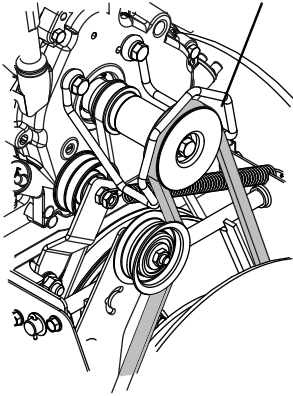

Figure 29
1. With the clutch lever disengaged, brake pad must contact attachment belt. With clutch lever engaged, brake pad must be more than 1/16 in. (1.6 mm) from belt. If there is more than 1/16 in. (1.6 mm) gap, go to *Check Belt Finger Clearance (Figure 29)* on page 27. If there is less than 1/16 in. (1.6 mm) gap, go to Step 2.
## Check Belt Finger Clearance (Figure 29)